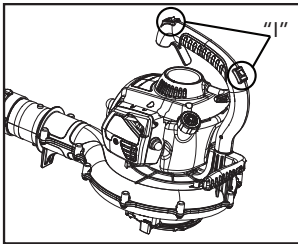

Fig. 6
1. Set two switches (1a,1b) on handle to "I" position (Fig.6).